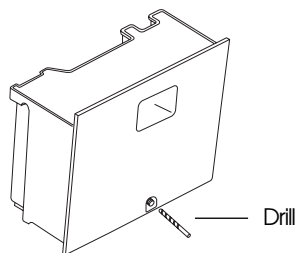

fig. 2
2. Drill a hole in the bottom of the tank using a 5 mm drill bit as shown in figure 2.